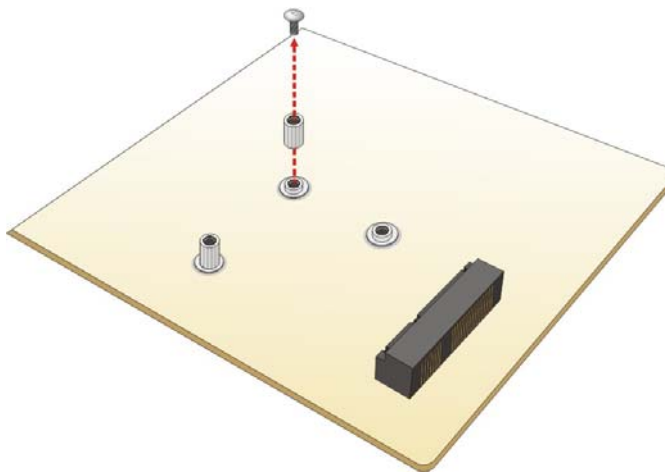

Figure 4-14: Removing Retention Screw and Standoff
Step 2: Remove the retention screw and the standoff. Remove the retention screw first, then unscrew and remove the standoff secured on the motherboard. See **Figure 4-14**.